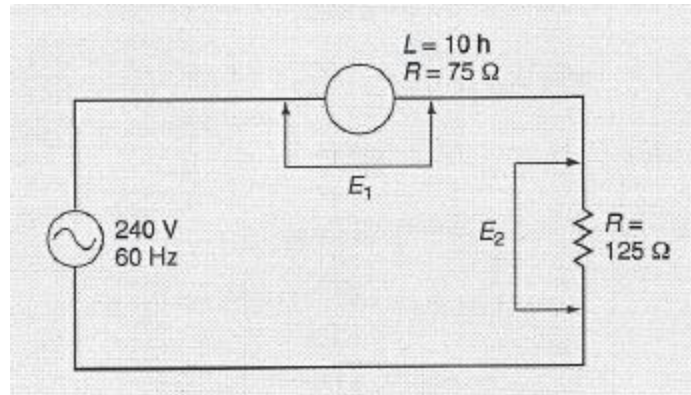

Figure 3.6: Simple Inductive Circuit
- 3-59 As an example, suppose you need to calculate the current in the circuit shown in Figure 3.6. To do so, you must first calculate the impedance in the circuit, and then use Ohm's law to calculate the RMS current.
- Notice in Figure 3.6 that the total resistance is  $200\Omega$ , the sum of the resistance of the coil and the additional  $125\Omega$  elsewhere in the circuit.